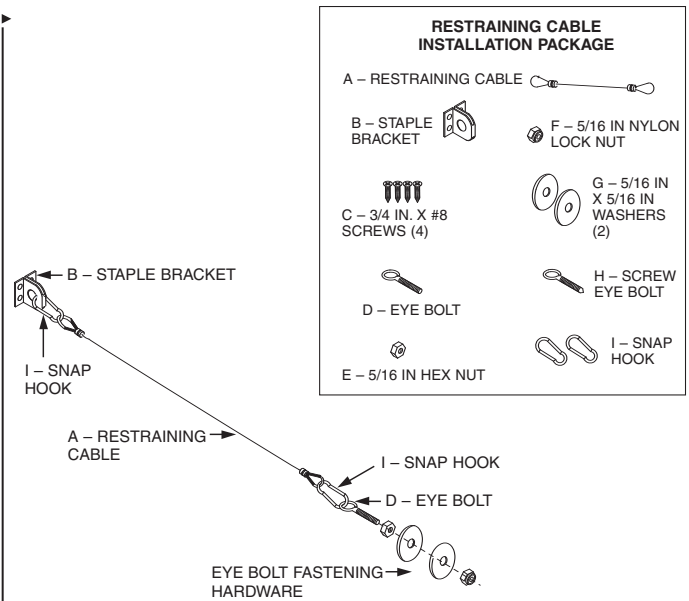

Figure 4-29.
3. For sheet metal covered walls, the Restraining Cable Assembly includes four (4) 3/4 in. x #8 self tapping sheet metal screws, and a Restraining Cable Bracket. Securely attach the Restraining Cable Bracket to the sheet metal covered wall using the 3/4 in. x #8 self tapping metal screws provided.
4. For mounting to wall studs, the Restraining Cable Assembly includes one (1) screw eye lag bolt, 5/16 in. 2.5 in. (6.4 cm) long.
6. The Restraining Cable Assembly also includes a 5/16 in. threaded eye-bolt, 5/16 in. hex head nut, 5/16 in. nylon lock nut, and two (2) 5/16 in. flat washers. Thread the included hex nut onto the eye-bolt. Slide one washer onto the eye-bolt threads next to the nut. Then, slide the eye-bolt through the drilled hole and place a washer and nylon locknut onto the eye-bolt on the inside frame of the equipment. Tighten securely.
7. Attach one of the snap hooks (included in the Restraining Cable package) on the end of the Restraining Cable to the wall bracket and the other snap hook to the eye-bolt. See **Figure 4-29**. After snap-hooking the assembly, seal the Restraining Cable Loops to the wall bracketry and appliance connection hardware with Lead Wire Seal, Part No. 197.